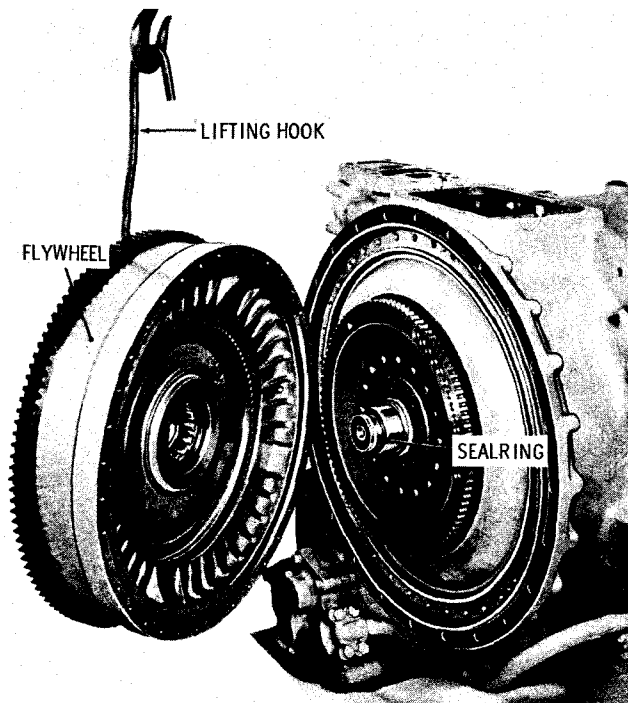

Fig. 5-18. Removing flywheel assembly
(10) Using the flywheel lifting hook (fig. 5-18), remove the flywheel assembly. Remove the hook-type sealring.